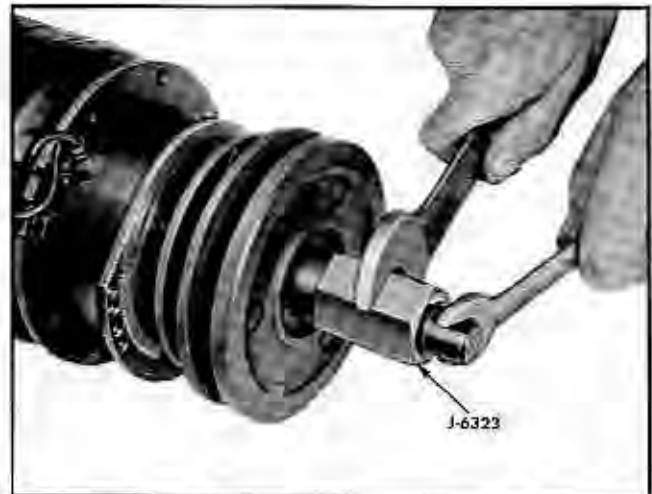

Fig. 6-59 Installing Pulley
i. Install the clutch pulley assembly using J-6323 and J-6323-5 adapter in a similar manner as installing the clutch plate assembly (Fig. 6-59).